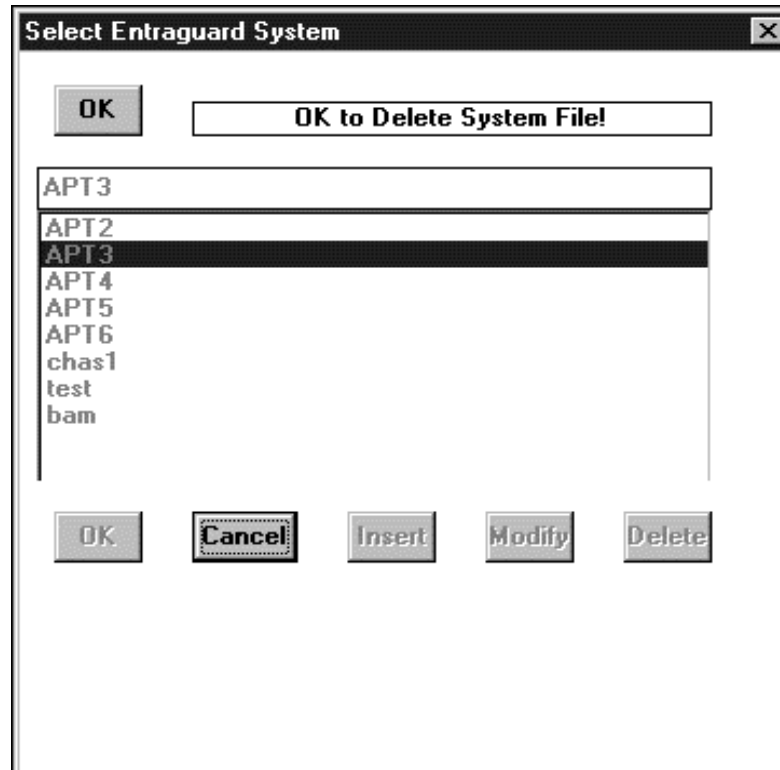

Figure 5.5.4
b) A delete confirmation message will appear in the *Select Entraguard System* window (Figure 5.5.4) as shown: